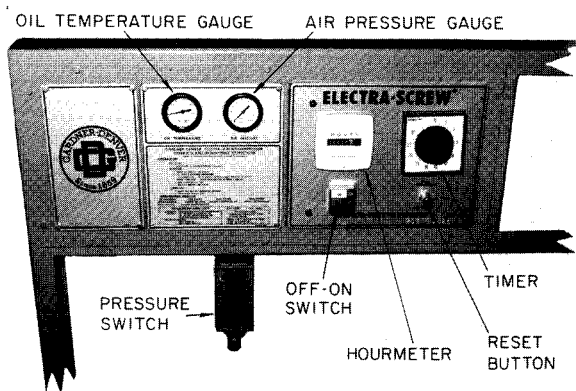
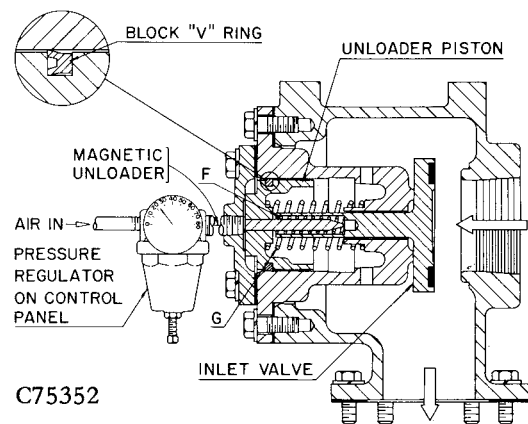

FIGURE 11-4. — INSTRUMENT PANEL
FIGURE 12-4. — INLET VALVE
The Duomatic Control system offers three modes of operation controlled by the adjustable timer on the instrument panel (Figure 11-4).
The air pressure switch located under the unit control panel (Figure 11-4) controls the operating pressure of the system by opening and closing the inlet valve (Figure 12-4) as in Constant Speed and Timed Duomatic operation, or by starting and stopping the unit as in Automatic Start-Stop operation. The switch is piped from the final discharge line to the magnetic unloader valve and connected to the electrical circuit in the control box.
**Inlet Valve (Figure 12-4)** — The piston-actuated inlet valve controls the compressor inlet and operates on air pressure from the control circuit. The valve is closed when preset full pressure is on the system, and opens when the pressure in the system falls to a preset minimum. The inlet valve contains piston spring “G” which returns piston and allows the inlet valve to open when the pressure is removed, and valve spring “F” which returns the valve to closed position on shutdown of the compressor to prevent oil blowback from the compressor through the air filter. The pressure regulator must be set 20-25 PSIG to prevent valve “slam”.